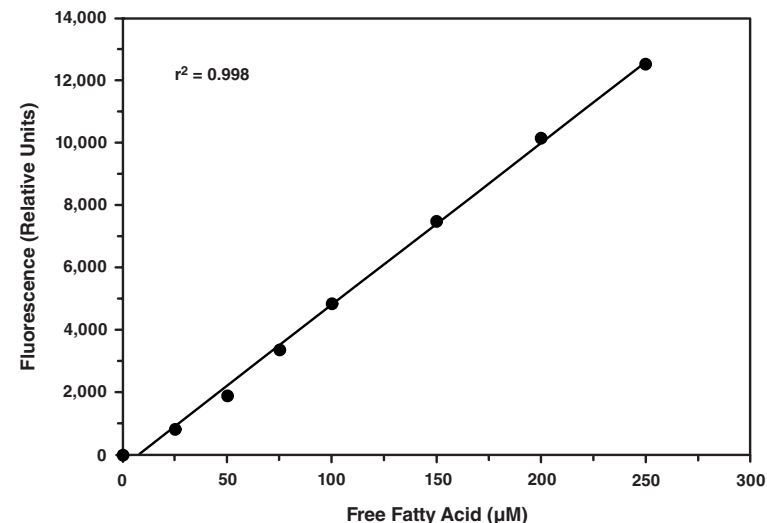

Figure 3. Free fatty acid standard curve
4. Plot the corrected fluorescence values (from step 3 above) of each standard as a function of the final concentration of free fatty acid from Table 1. See Figure 3, on page 15 for a typical standard curve.